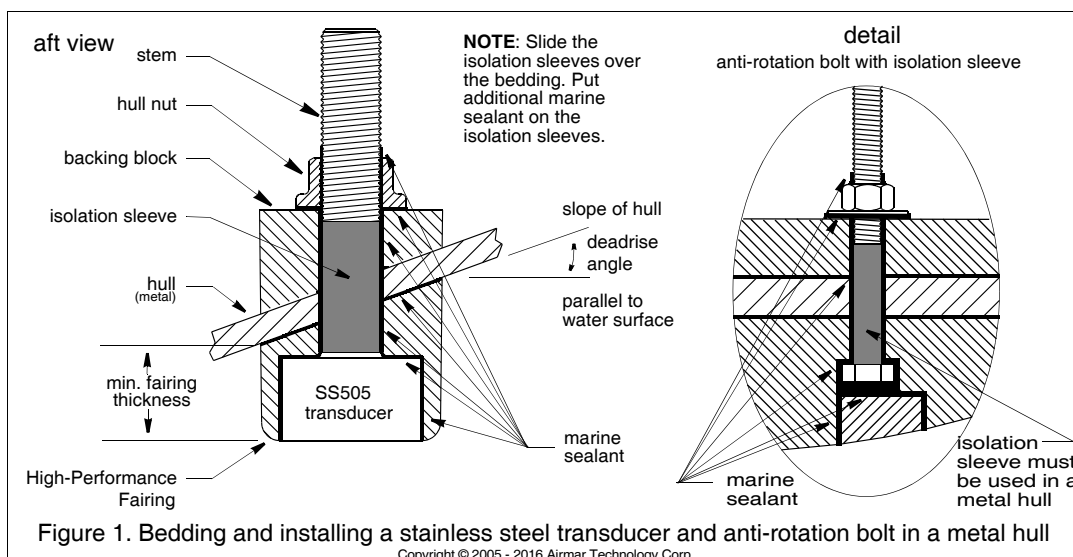

Figure 1. Bedding and installing a stainless steel transducer and anti-rotation bolt in a metal hull
1. Drill a 3mm or 1/8" pilot hole perpendicular to the waterline from inside the hull (see Figure 1). If there is a rib, strut, or other hull irregularity near the selected mounting location, drill from the outside.
1. Measure the deadrise angle of the hull at the selected mounting location using an angle finder (see Figure 1). *Check to be sure the angle does not exceed the maximum allowed (see Specifications Table 1).*
4. Adjust the cutting fence, so the fairing will be cut in about two equal parts. There is a minimum thickness for the fairing at its thinnest dimension (see Figure 1 and Specifications Table 1).
Stainless steel transducer/stem in a metal hull—Slide the isolation sleeve over the bedded transducer stem as far down as possible (see Figure 1). Apply a 2mm (1/16") thick layer of the marine sealant to the outside of the sleeving.
Stainless steel transducer/stem in a metal hull—Be sure the isolation sleeve is between the transducer stem and the hull (see Figure 1). However, the top of the isolation sleeve must be below the top of the backing block to prevent the sleeving from interfering with tightening the hull nut.
Stainless steel bolt in a metal hull—Slide the isolation sleeve over the bedded bolt as far down as possible (see Figure 1 detail). Apply a 2mm (1/16") thick layer of the marine sealant to the outside of the sleeving.
Stainless steel bolt in a metal hull—Be sure the isolation sleeve is between the bolt and the hull (see Figure 1 detail). However, the top of the isolation sleeve must be below the top of the backing block to prevent the sleeving from interfering with tightening the hull nut.